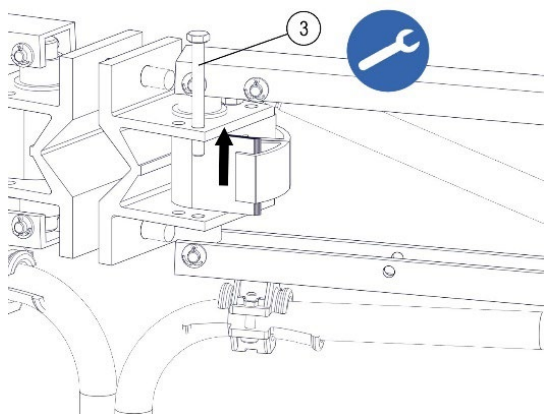

Fig. 4: Loosen the hexagon head screw (Pos. 3)
- Loosen the hexagon head screw (Pos. 3) with an open-end wrench (size 17) and push it upwards. But do not remove it completely (see Fig. 4).